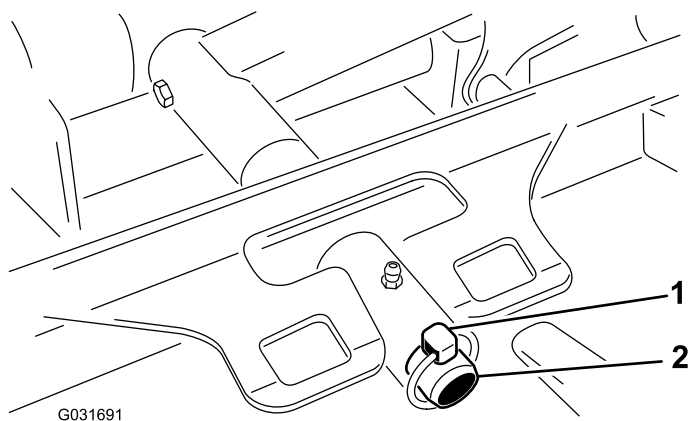

Figure 70
3. Remove the lynch pin securing the deck-carrier frame to the lift-arm pivot pin (Figure 70).
3. Slide the deck-carrier frame onto the lift-arm pivot pin and secure it with the lynch pin (Figure 70).